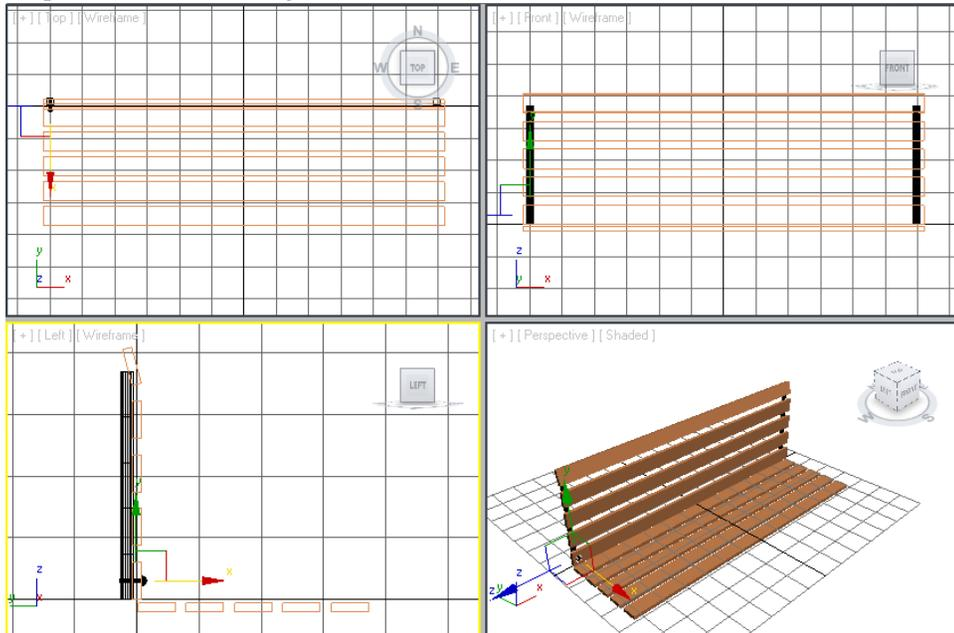

Figure 2-70 Alignment of *rivet001* with horizontal back support
- Choose the **Select and Move** tool and align *rivet001* with *horizontal back support* in all viewports, as shown in Figure 2-70.